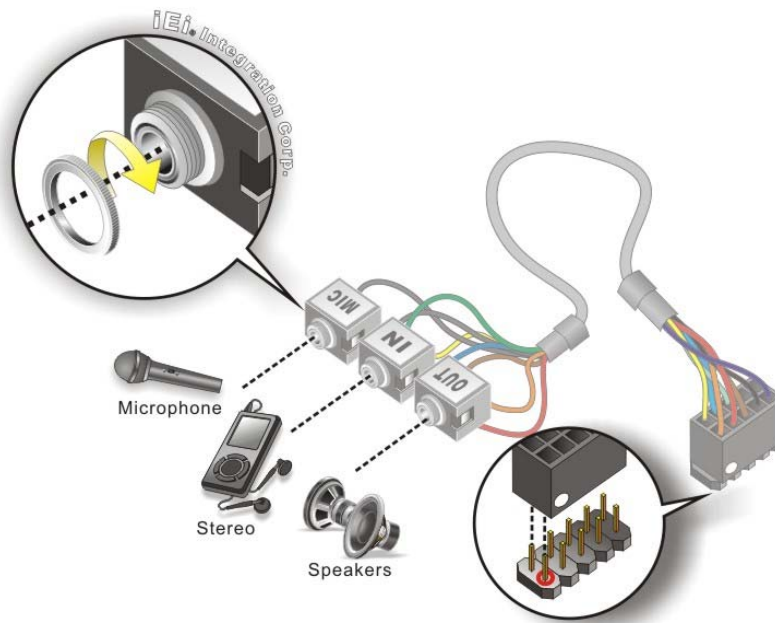

Figure 4-18: Audio Kit Cable Connection
- Step 2:** **Align pin 1.** Align pin 1 on the on-board connector with pin 1 on the audio kit connector. Pin 1 on the audio kit connector is indicated with a white dot. See **Figure 4-18**.